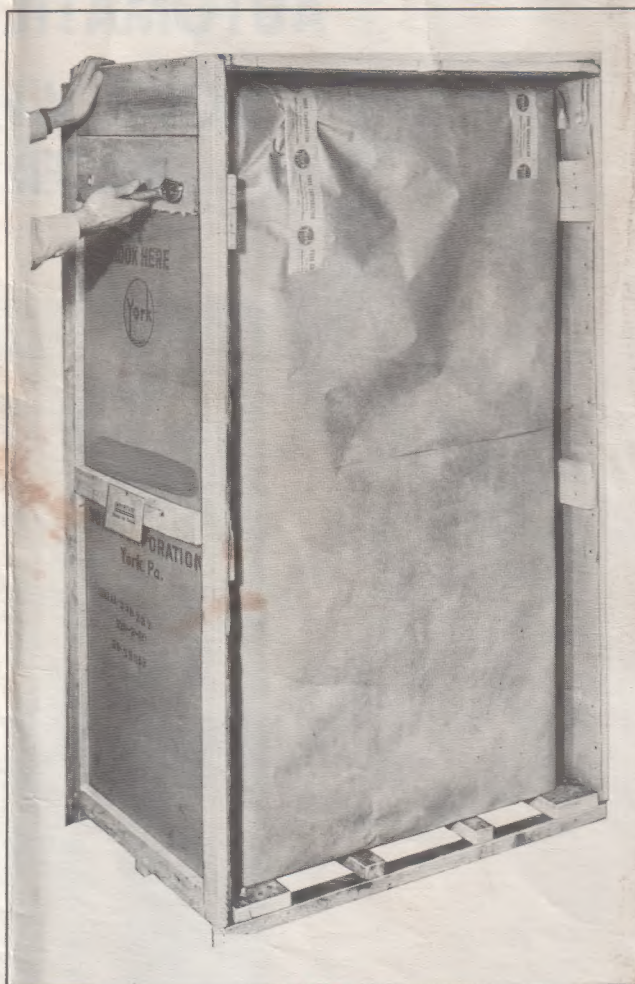

Fig. 1
- (a) Remove the nails holding the front section of the crate to the top, bottom, and sides. This will release the front section of the crate. See Fig. 1.
- (c) Remove the four bolts, (two on each end), that fasten the crate to the unit. See Fig. 1.